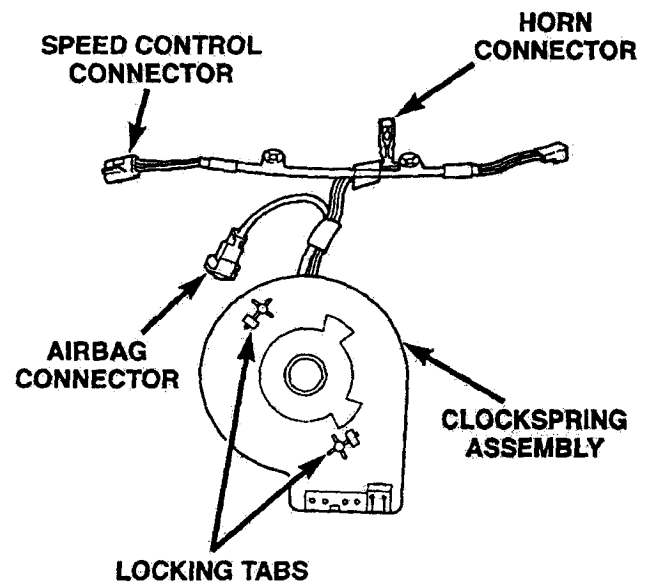

Figure 5
17. Remove the clockspring from the multi-function switch by depressing the two tabs on the clockspring (Figure 5). Discard the clockspring assembly.
18. Slide the new clockspring over the steering column shaft until the clockspring latches engage the multi-function switch housing (Figure 5).